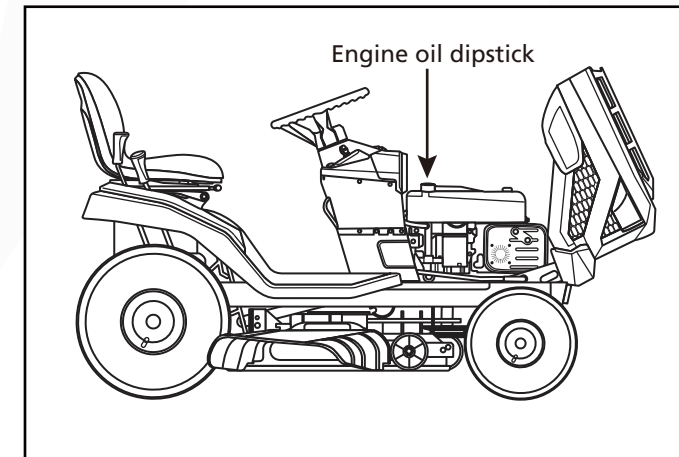
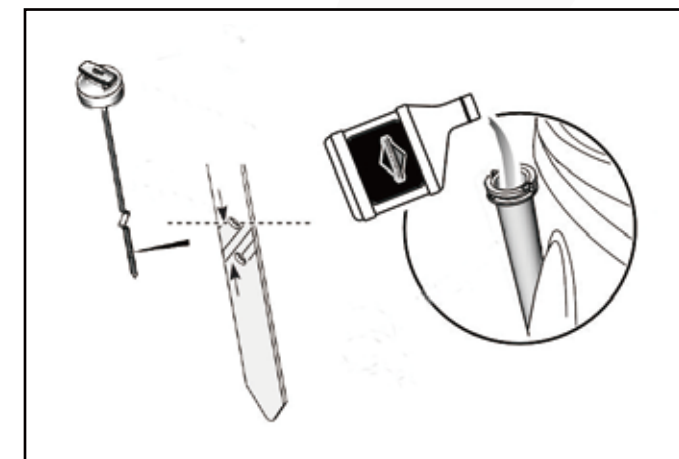

Fig. 12
Fig. 13
3. Remove the dipstick (Fig. 12 & Fig. 13). Wipe clean the remaining oil from the dipstick.
8. If the oil level is LOW, add oil into the oil fill tube. (Fig. 13)